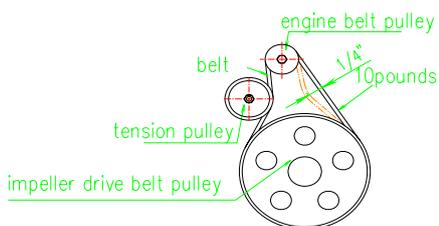

FIG 7
2.4.3 Press right side of the handle, the belt moves 1/4" with 10 pounds of pressure, it means the tension of the belt is all right, or else adjust Rod-RH. (FIG 7)